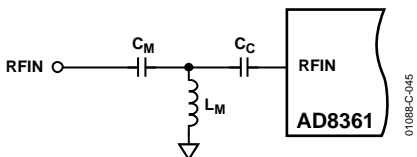

Figure 45. Input Coupling/Matching Options, Narrowband Reactive Match
Alternatively, a reactive match can be implemented using a shunt inductor to ground and a series capacitor, as shown in Figure 45. A method for hand calculating the appropriate matching components is shown on page 12 of the AD8306 data sheet.
**Table 6. Recommended Values for a Reactive Input Matching (Figure 45)**